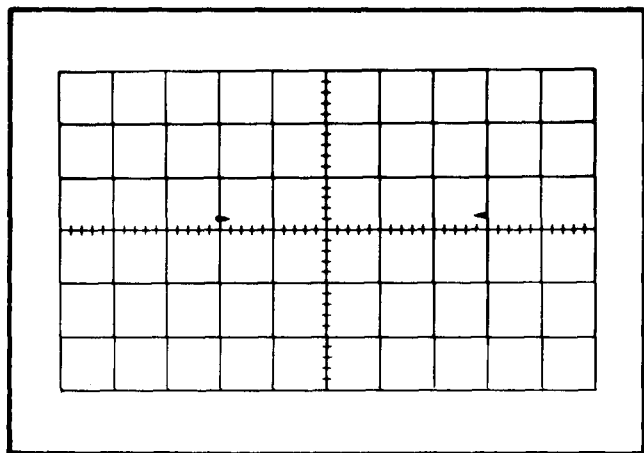

Fig. 5-24. Typical CRT display showing correct X Gain.
- f. CHECK-CRT display for five divisions horizontal deflection (see Fig. 5-24).